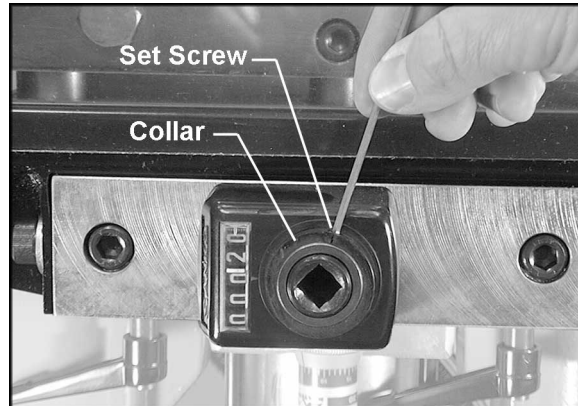

Figure 30
2. At this point, 0.20” is the distance from the center of the spindle (or rod) to the table surface. Therefore, the mechanical digital readout should read 0.20” as shown in Figure 30.
4. Loosen the set screw (Figure 30) with a 2.5mm hex wrench. Rotate the collar until the display reads 0.20” .